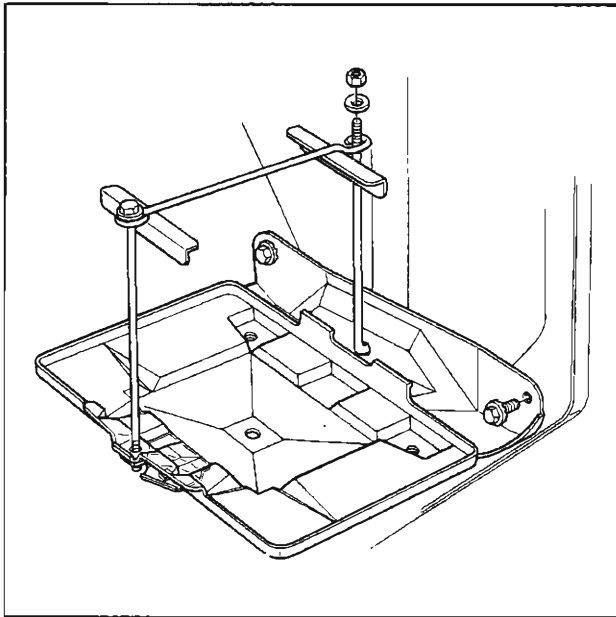

Fig. 20—Battery Tray
4. Remove one fender skirt to battery tray attaching screw (fig. 20).